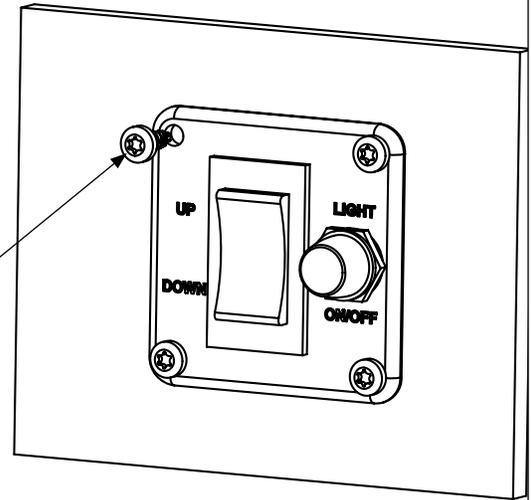

Figure 17. Securing switch plate to helm
8. Secure switch plate to helm using screws supplied in kit as shown in Figure 17.